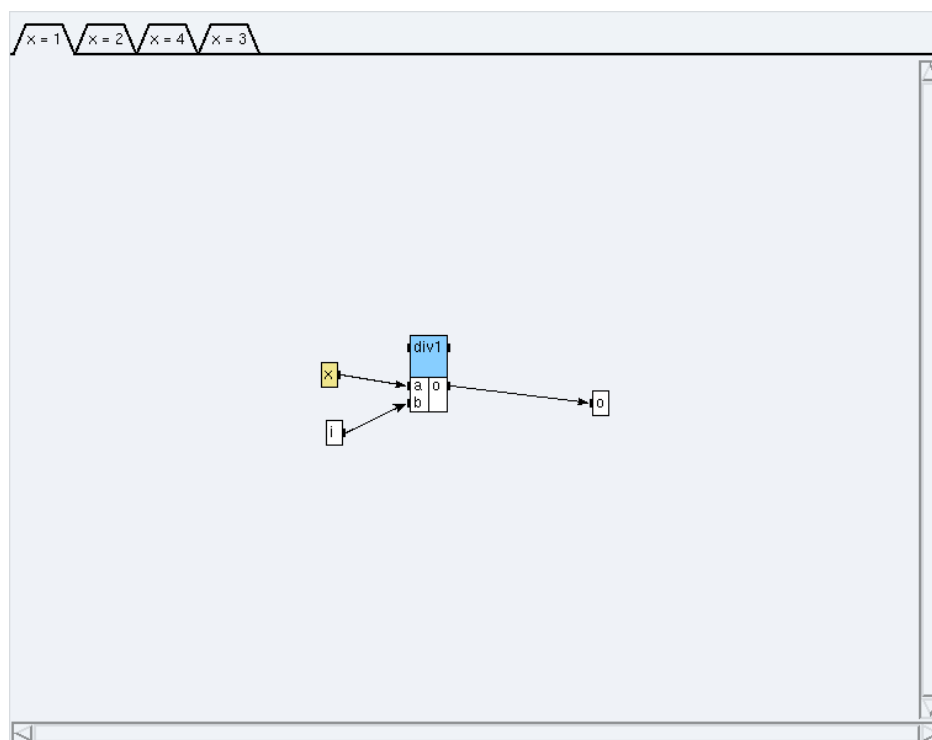

Figure 5.2: Condition x=1
- * click on the condition `x=1` (*cf.* figure 5.2) and create a reference `div1<1>` to the definition `int/Arit_div`,